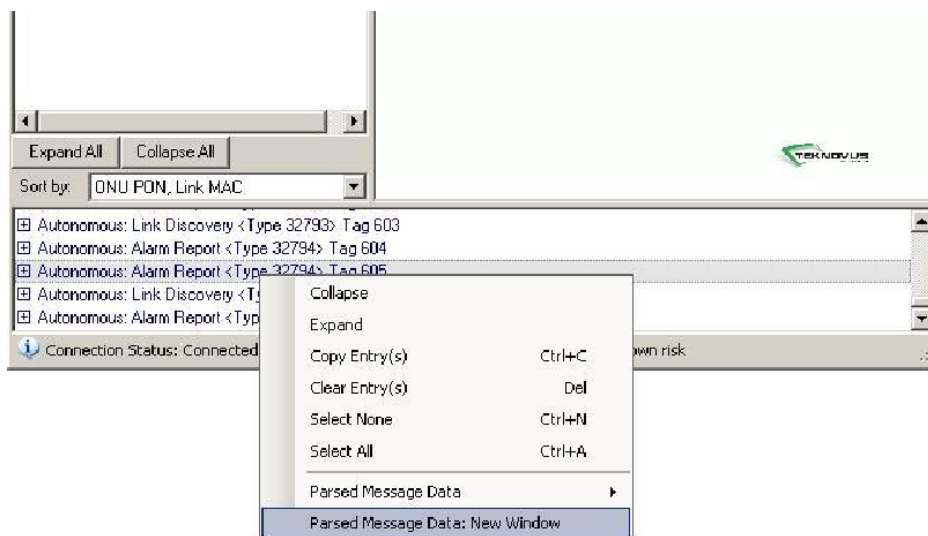

Figure 4-2 Message Select Menu
- ✓ Select one message in the message window; click the right mouse button and the Select menu will appear shown in the Figure 4-2.